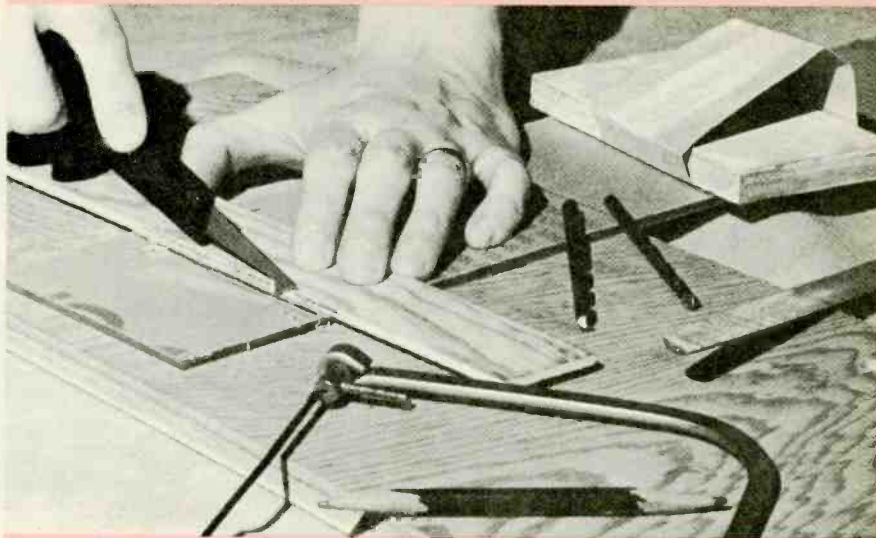

Fig. 2
The scribing tool, which sells for about \$2.00 wherever the plastic is sold, looks like a miniature harpoon. In use, the sharp point of the tool is guided along the cut line with moderate downward pressure, using a straight edge, as shown in Fig. 2. Once the line is scribed, the plastic is placed over the edge of a table, scribed line up and in direct alignment with the edge of the table, and struck sharply on the side overhanging the table. The snapping action yields a very straight, clean edge. The snapped edges must then be lightly smoothed with fine sandpaper before being cemented. Edges that are not to be cemented can be buffed to a crystal sheen with a drill-mounted muslin wheel and a special buffing compound (about \$3.00 for wheel and compound) or with fine steel wool and soap and water.
**Fig. 2.** The acrylic scribing tool, obtainable wherever the plastic is sold, looks like a small harpoon and is used to scribe a line, following a straight edge, where the plastic is to be broken.